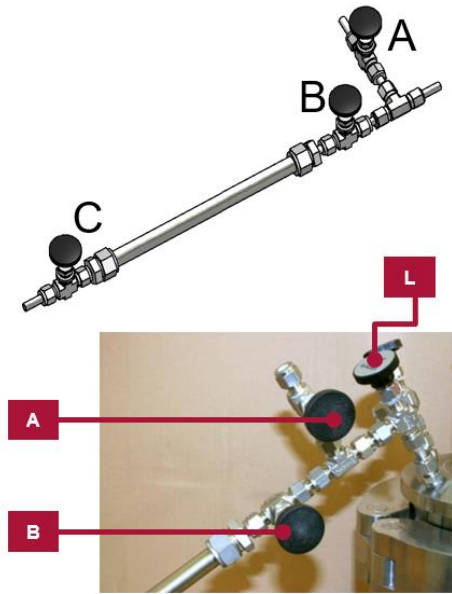

Figure 1. Liquid sampling reservoir trap with 3 valves named as A, B and C (above) and reactor lid with liquid sampling valve named as L (below).
- 2- Connect the liquid sampling reservoir trap to the liquid sampling valve L on your reactor lid as shown in Figure 1.